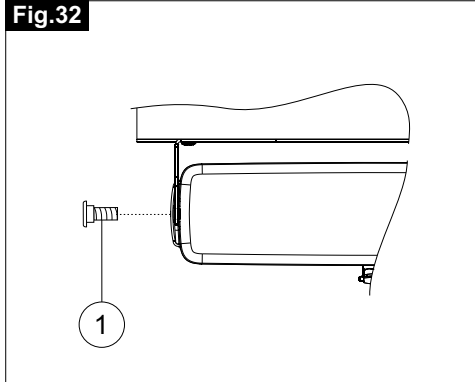

Fig.33
- 9) **Fig.33-** Connect the bracket for bottom hung opening (**Ref.1**) to the chain end (**Ref.2**);